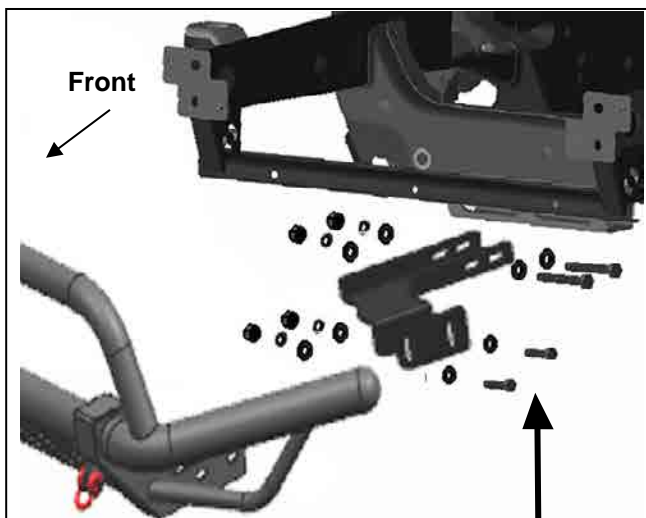

Fig 9
5. With assistance, hold the Bull Bar up in position on the outside of the Mounting Brackets. Bolt the Bull Bar to the Brackets with (4) 10mm x 30mm Hex Bolts, (8) 10mm Flat Washers, (4) 10mm Lock Washers and (4) 10mm Hex Nuts, **(Figure 9)**. Do not tighten hardware at this time.